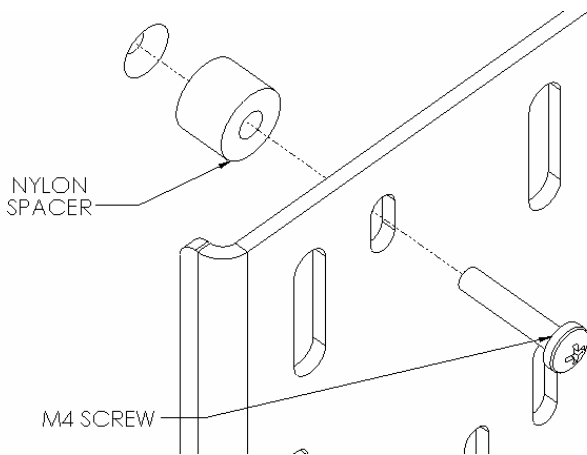
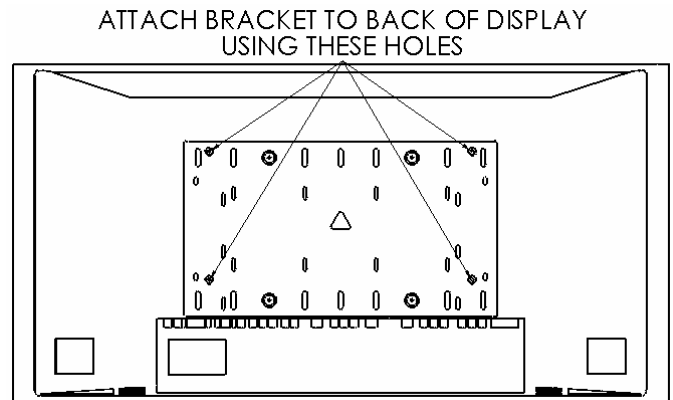

Figure 6
Figure 7
4. **Bracket Installation:** Attach bracket to back of display using the M4 screws and nylon spacers (see Figure 6 & Figure 7). The vertical slots of bracket can be used for any height adjustment that may be needed. Do not over tighten screws.